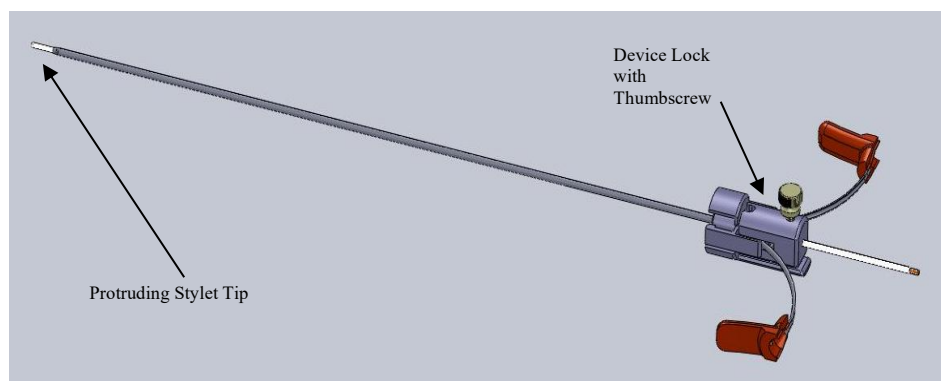

Figure 20: Stylet Inserted into Peel-Away Sheath
17. Insert the Stylet into Dock until Device Lock mates and snap locks to Dock, making sure to orient the Device Lock such that the white thumb screw opposes the backboard extension piece of the dock. **See Figure 20.**